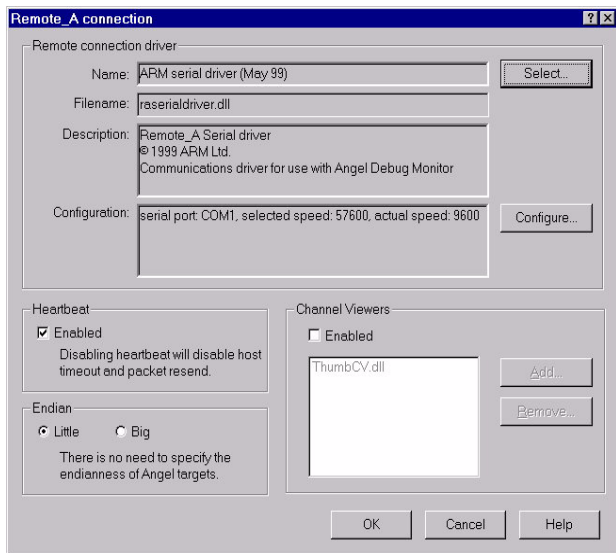

Figure 3 Remote_A Connection dialog
8. The **Remote_A Connection** dialog is displayed (see Figure 3).